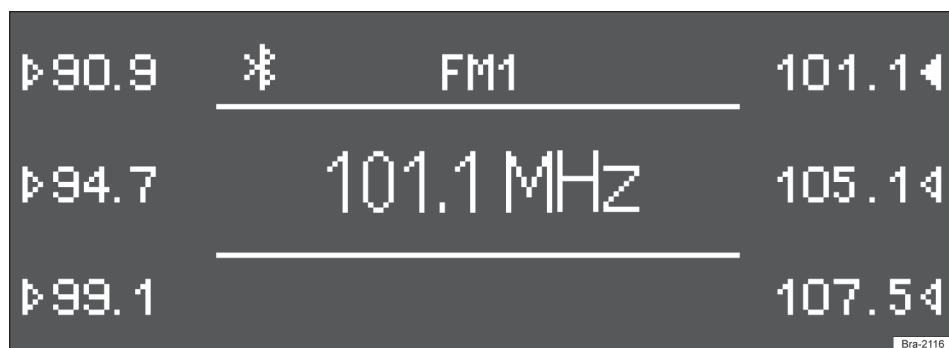

Fig. 141 Stations memorized in FM1 memory level station buttons.
- The station currently selected (at→ Fig. 141: 101.1 MHz) is stored in this station button.